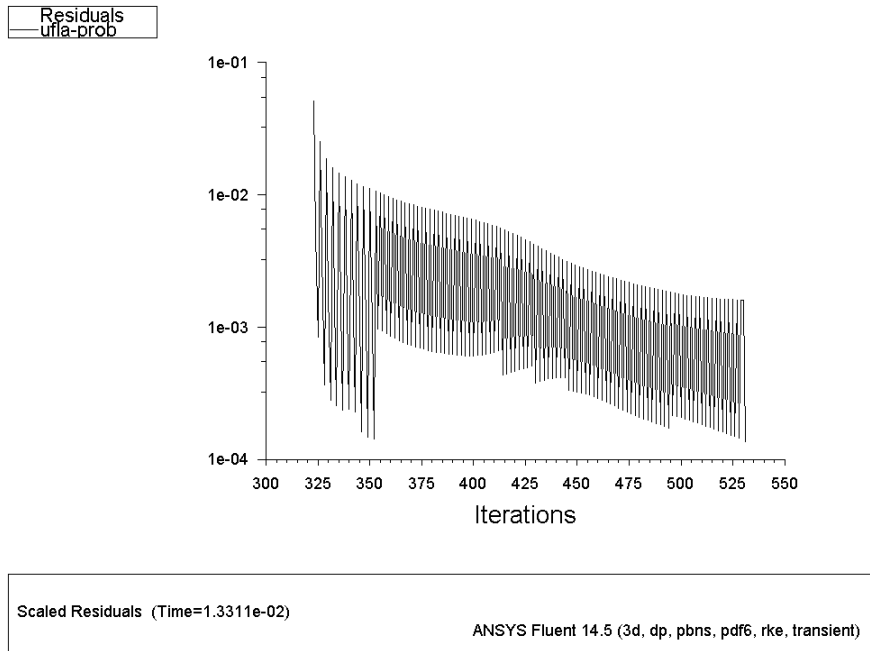

Figure 9: Scaled Residuals After Additional 100 Time Steps
*The scaled residuals are as shown in Figure 9.*